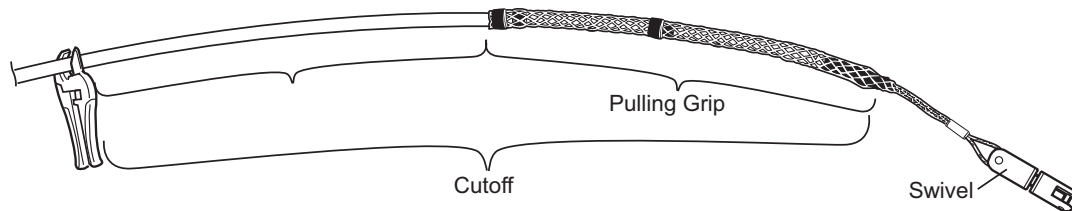

Figure 9 – Cutting the Pulling Grip
7. After the duct has been pulled through, cut away the front part of the duct, see Figure 9. The length of the cutoff must be twice the length of the pulling grip. This is due to the extra stress on that part of the duct.